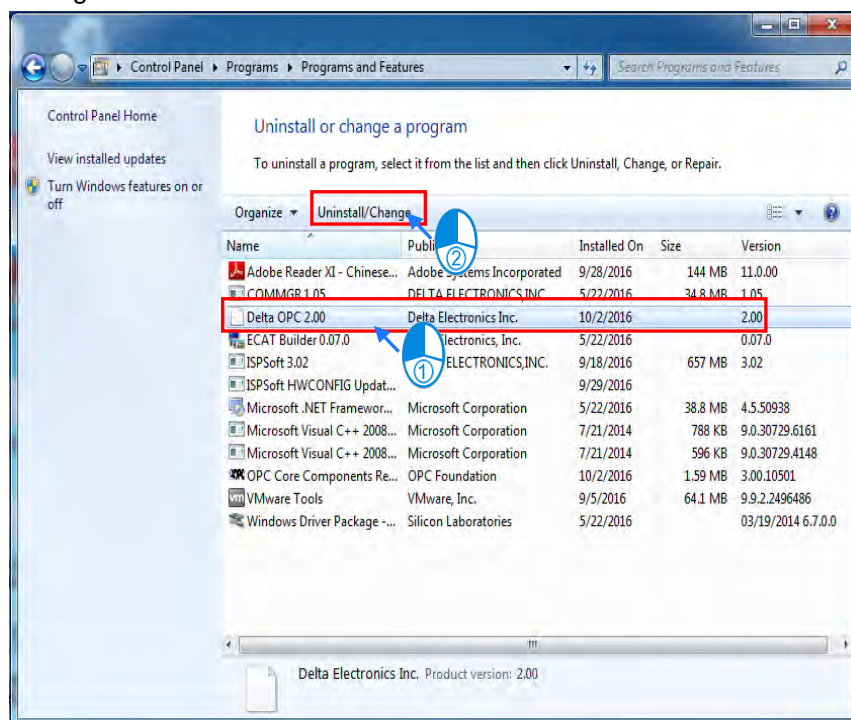

Figure 1-12 Uninstalling Delta OPC
(1) There are two methods of uninstalling Delta OPC.
- Method 1: Open the **Control Panel** window, click **Programs and Feature** and then click **Uninstall or change a program**. In the **Currently installed programs** box, click **Delta OPC vx.xx**, and then click **Uninstall/Change**. x.xx denotes the version of Delta OPC, as shown in figure 1-12.